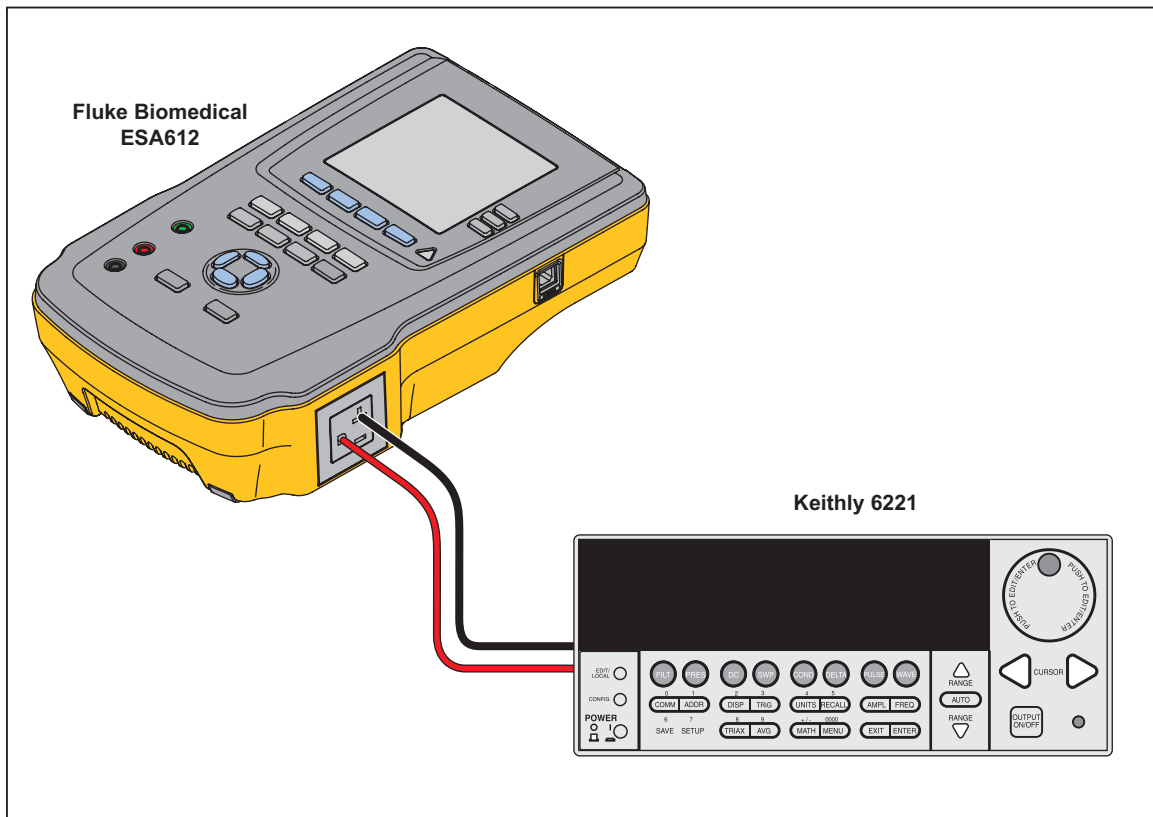

Figure 3-3. GFI Verification Connections
1. Connect the current source between EO Neutral and EO ground as shown in Figure 3-3. Set the current source for 4.5 mA (6.364 mA p-p), 60 Hz with a compliance voltage of 40 V.